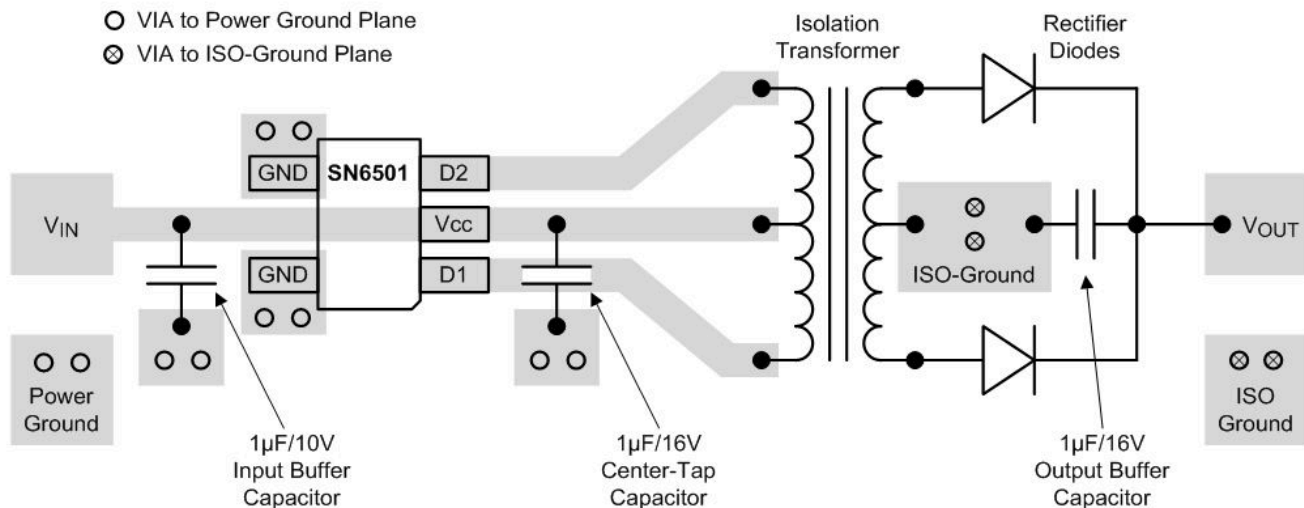

图 11-1. Layout Example of a 2-Layer Board (SN6501)
- The optimum placement is closest to the V_{IN} and GND pins at the board entrance to minimize the loop area formed by the bypass-capacitor connection, the V_{IN} terminal, and the GND pin. See Figure 11-1 for a PCB layout example.